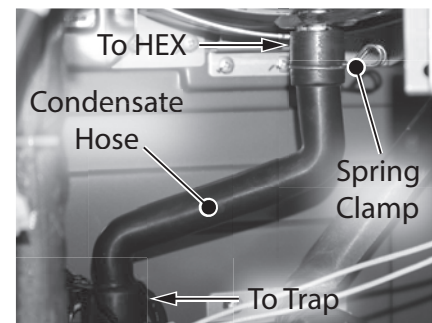

Figure 235 - Condensate hose removal
- 20 Disconnect the black hose from the top of the condensate trap and then from the back of the heat exchanger (HEX). Compress the spring clamp and pull it down along with the black hose. Remove it and dispose of properly. See Figure 235.